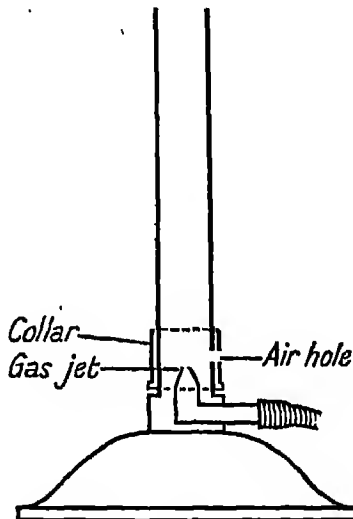

FIG. 106. The Bunsen burner.
**Expt. 147.** Take the bunsen burner to pieces by unscrewing the tube (Fig. 106). Note the small hole from which the gas issues. Light the gas at this nozzle. A thin pencil of luminous flame is obtained. Reassemble the burner and note the position of the air-holes opposite the point of entry of the gas. Note the arrangement for closing the air-holes.